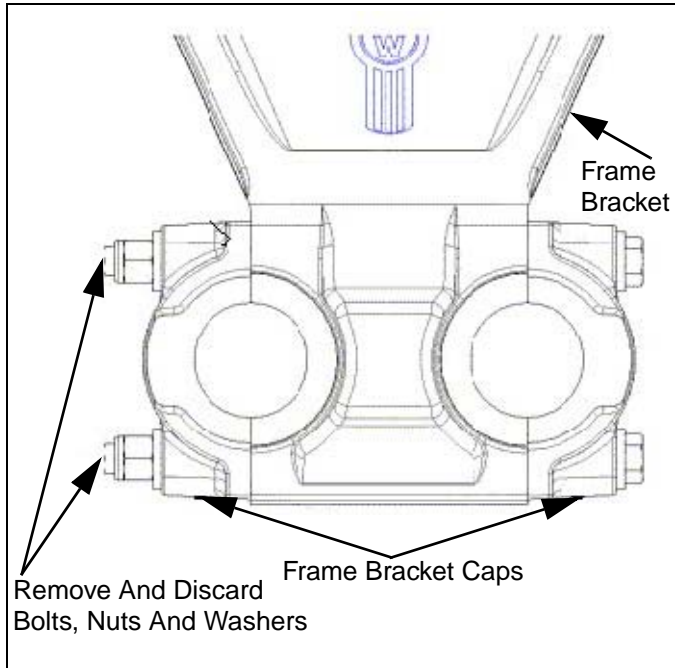

Figure 17-26
4. Remove and discard the fasteners from the frame-bracket and cap joint. See Figure 17-26.